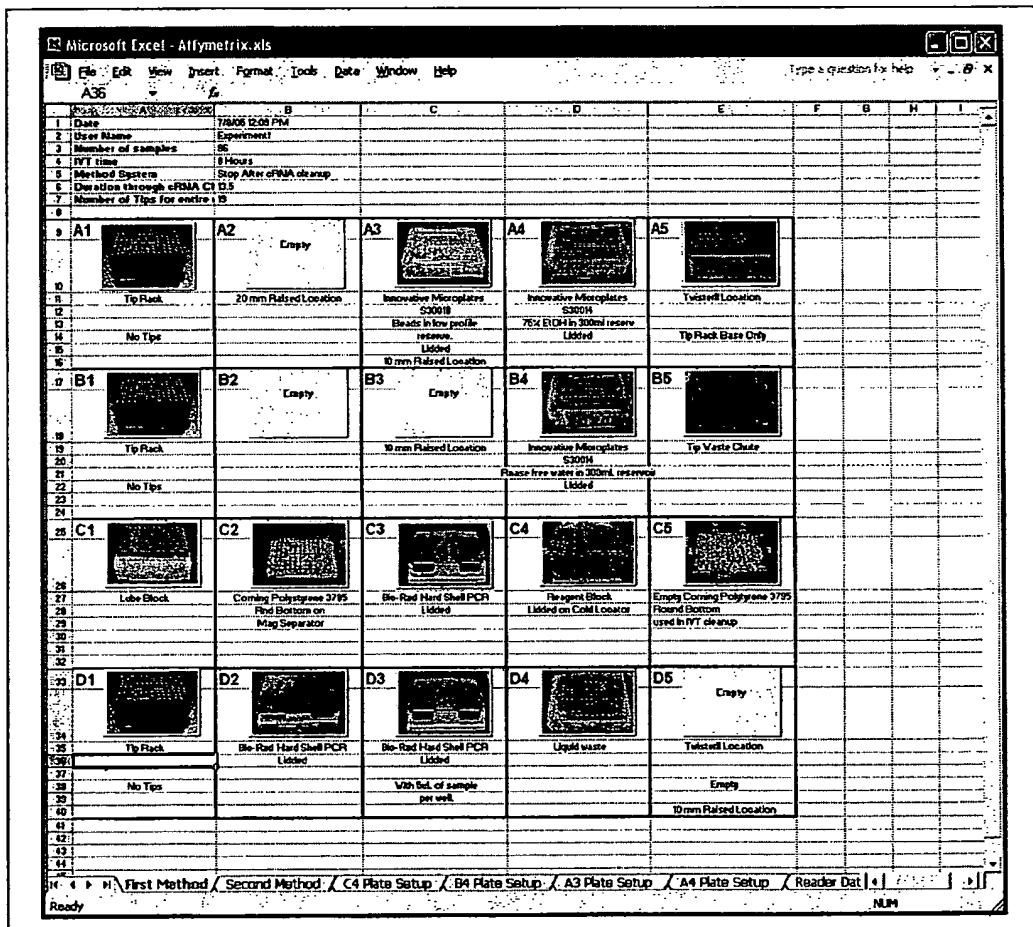

Figure C.1
1. The first two sheets show the deck layouts (Figure C.1 and Figure C.2).